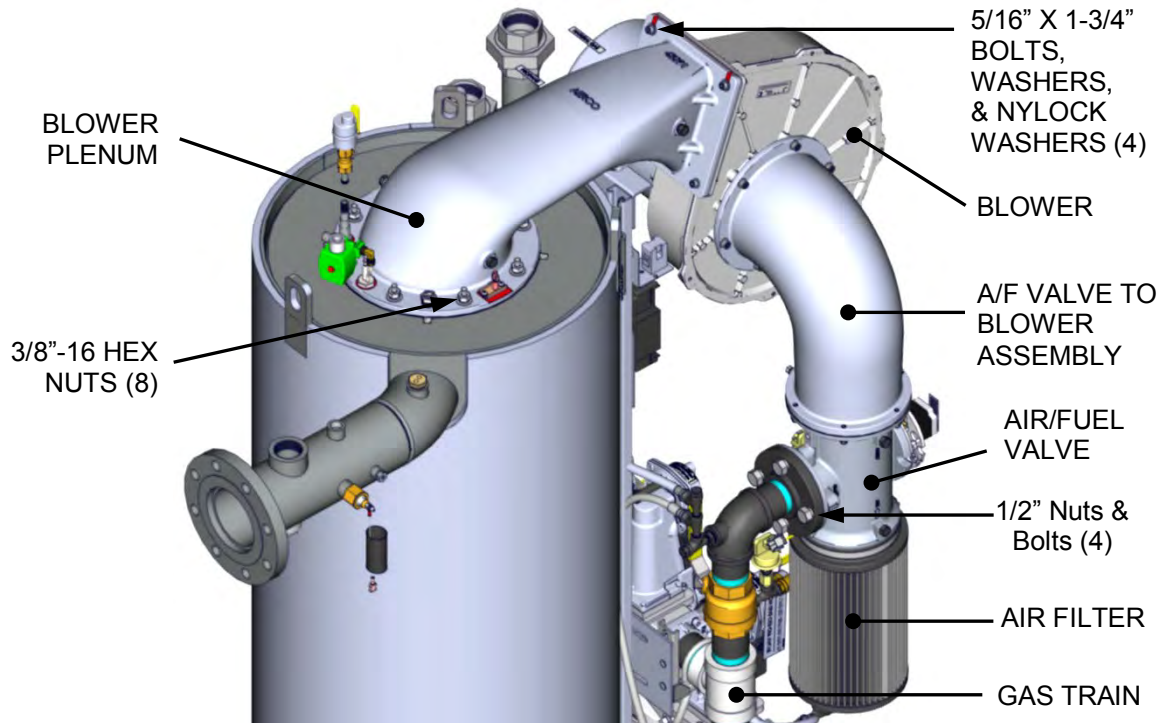

Figure 7-4a: Burner Assembly Mounting Details
10. Loosen and remove the four 5/16x1-3/4" bolts, washers, and nuts from the burner plenum where it is attached to the blower (see Figure 7-4a & 7-4b).
11. Remove the eight (8) 3/8-16 nuts, using a 9/16" (or 11/16") wrench, attaching the blower plenum to the burner beneath (see Figure 7-4a and 7-4b).